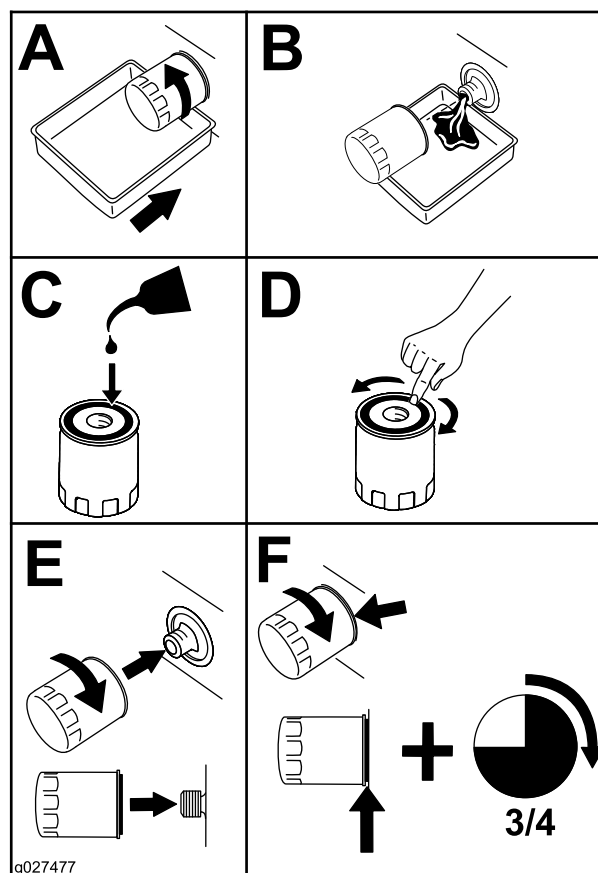

Figure 33
2. Change the engine oil filter (Figure 33).